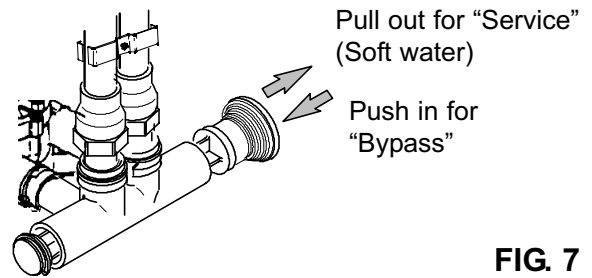
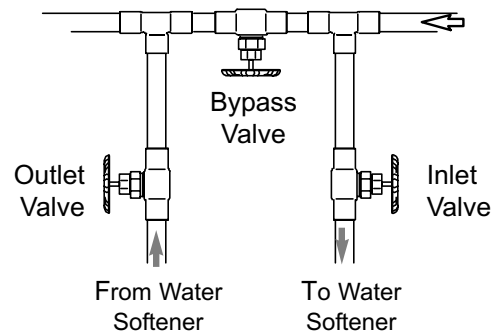

FIG. 7
FIG. 8
Always install either a single bypass valve (provided), as shown in Figure 7, or, if desired, parts for a 3 valve bypass system (not included) can be purchased and assembled, as shown in Figure 8. Bypass valves allow you to turn off water to the softener for maintenance if needed, but still have water in house pipes.
2. Place the bypass valve (single or 3 valve) into the "bypass" position. See Figures 7 & 8 on Page 12.